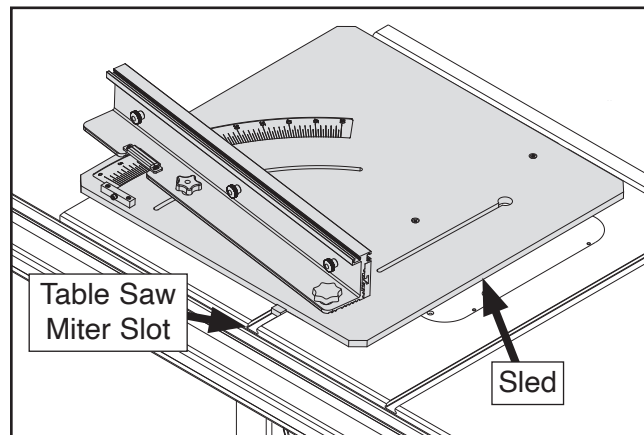

Figure 9. Sled miter bar in left table saw miter slot.
13. Place sled miter bar in table saw miter slot to left of blade (see **Figure 9**) to check how miter bar moves through slot.